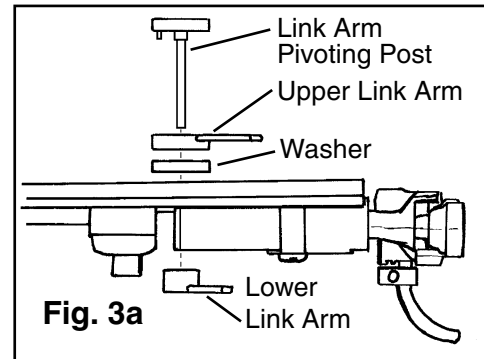

Fig. 3a
**3)** Mount gearbox linkages through gearbox and floor. (Use washer/s [supplied on linkage assembly sprue] between the deck top & linkage arm to take up any vertical slack.) see **Fig. 3a & 3b**